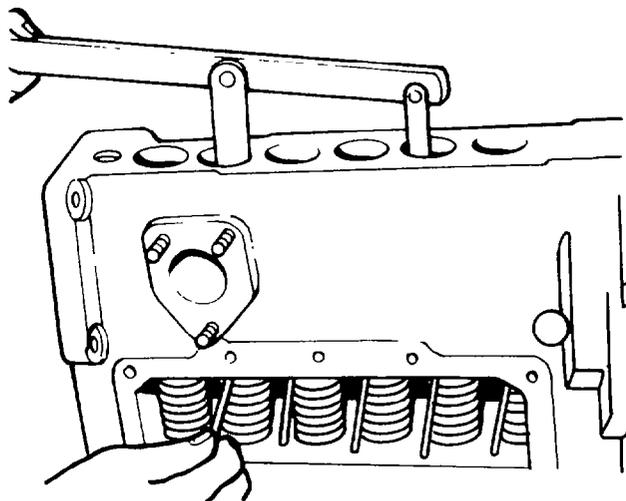

Fig. 106 — Compressing Plunger Spring
- ad. Align the tappet locating slot with the locating screw hole and assemble the tappet locating screws (item 47) and new copper gaskets (item 48). Torque the screws to 16.0 – 18.0 Nm (145 – 155 lb.in.), then stake the housing (item against screws (item 47) in four places.
- ac. Align the notched plunger flanges with the slots of the control sleeves (item 27).
- af. Compress each plunger spring (item 25) as follows:
- 1. Assemble the compressing tool TSE 76160D onto the pump housing and align the ram of the tool with the tappet roller as shown in fig. 106.
- 2. Carefully compress the spring (item 25) and insert the service pin TSE 76156B, then slowly release the tappet assembly until the tappet comes to rest.